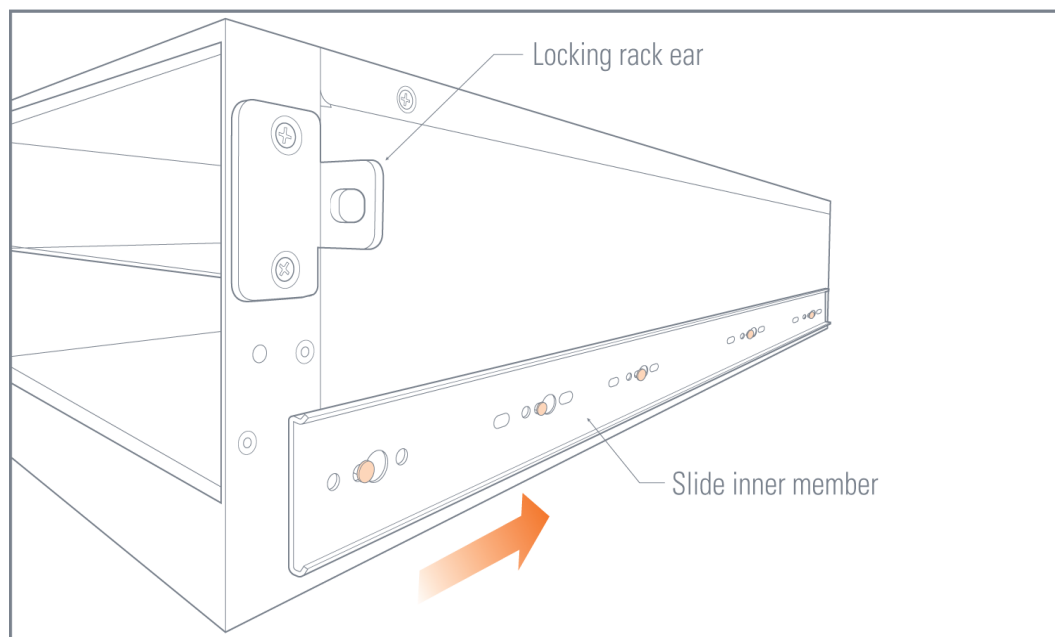

Figure 3-3: Slide Inner Member and Locking Rack Ear Installed on Chassis
6. Attach the left and right inner members of the mounting slide to the chassis and attached the locking rack ear to the chassis. Refer to Figure 3-3 on page 52.